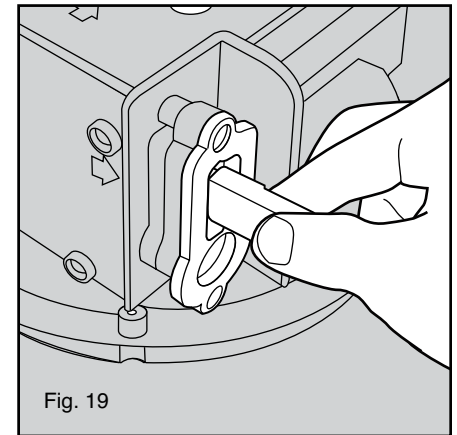

Fig. 19
20. Push the signal cable plug into the motor module receptacle. The connection is secured when the yellow arrow on the signal cable plug is no longer visible (see figure 19).